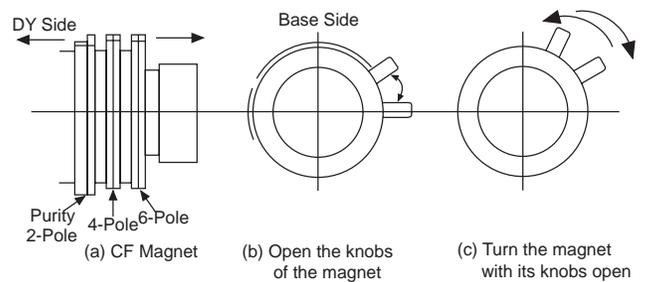
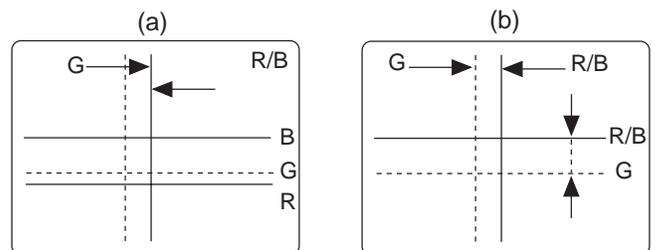

FIGURE 1-4-1
FIGURE 1-4-2
- (2) Open the knobs of 4-pole magnet (2 sheets) (Figure 1-4-1(b)) and match the blue/red vertical lines at the center of the screen as shown in Figure 1-4-2(a).
- (3) Turn the 4-pole magnet with its knobs open (Figure 1-4-1(c)) and match the blue/red horizontal lines as shown in Figure 1-4-2(b).